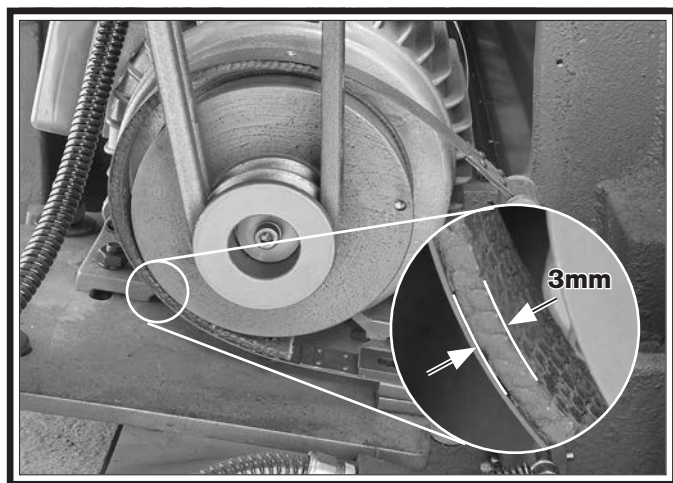

Figure 126. Minimum brake belt thickness.
4. Measure the remaining brake band lining at the thinnest point, which is usually at the 8 o'clock position, as shown in **Figure 126**.